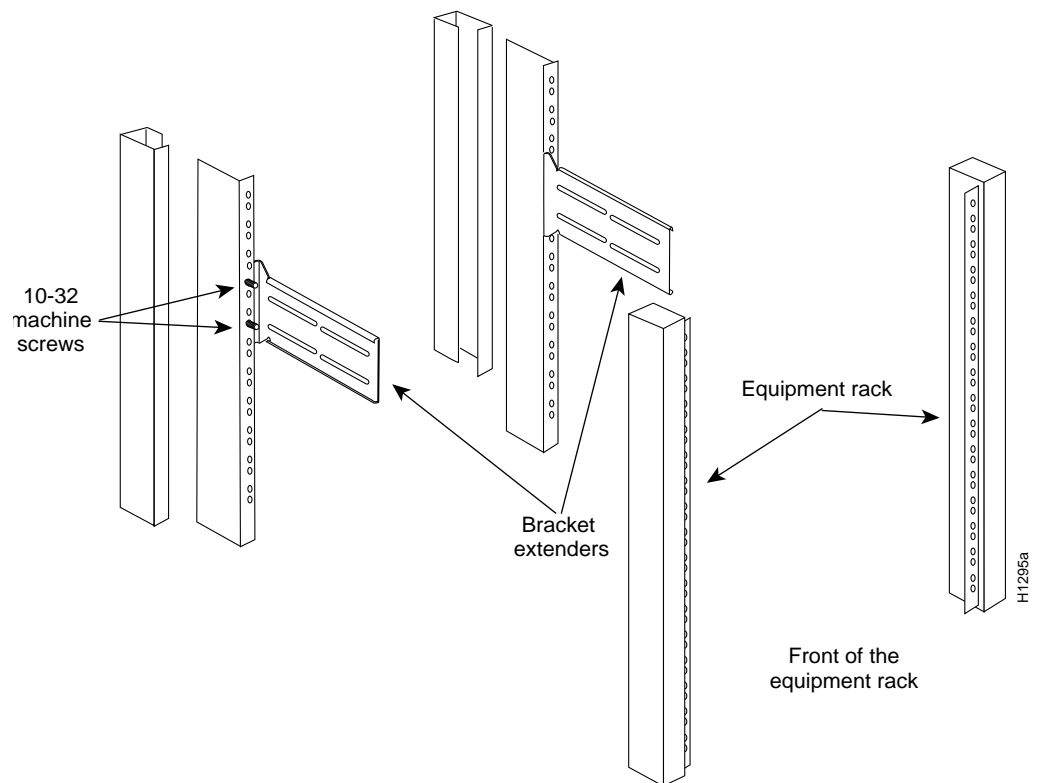

Figure 6 Rear Bracket Extenders in a Standard 19-inch Rack
Step 1: On the rear of the rack, insert two 10-32 machine screws through the slots of the extenders and thread them into the rack-mount threaded holes (see Figure 6).